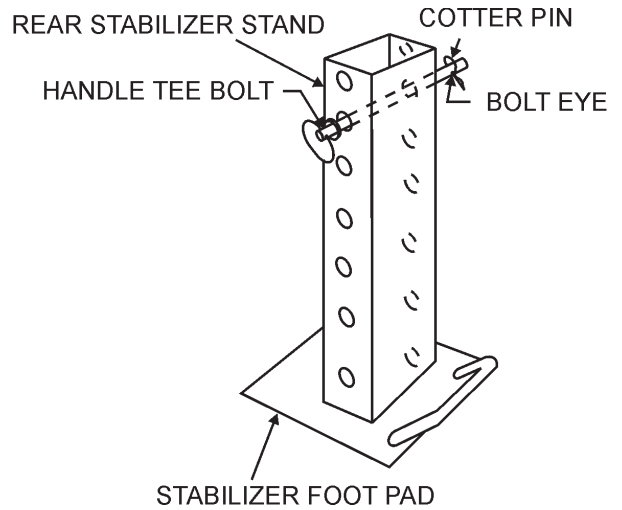

Figure 17. Rear Stabilizer Stand
- Remove the **cotter pin** from the handle tee bolt eye, and then **pull** the handle tee to release the stabilizer stand (Figure 17).